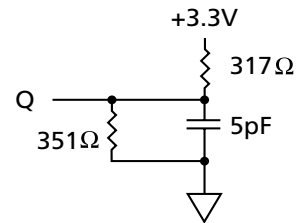

Figure 2
- The load used for VOH, VOL testing is shown in Figure 2. AC load current is higher than the shown DC values. AC I/O curves are available upon request.
4. Output loading is specified with  $C_L = 5\text{pF}$  as shown in Figure 2.